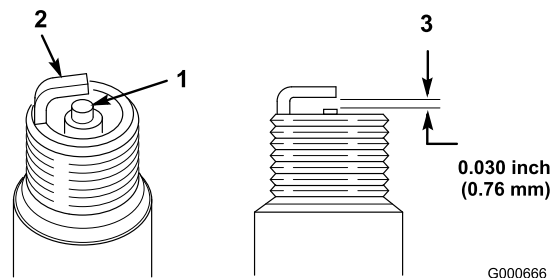

Figure 26
1. Look at the center of the spark plug (Figure 26). If you see light brown or gray on the insulator, the engine is operating properly. A black coating on the insulator usually means that the air cleaner is dirty.
2. Check the gap between the center and side electrodes (Figure 26) and bend the side electrode if the gap is not correct.